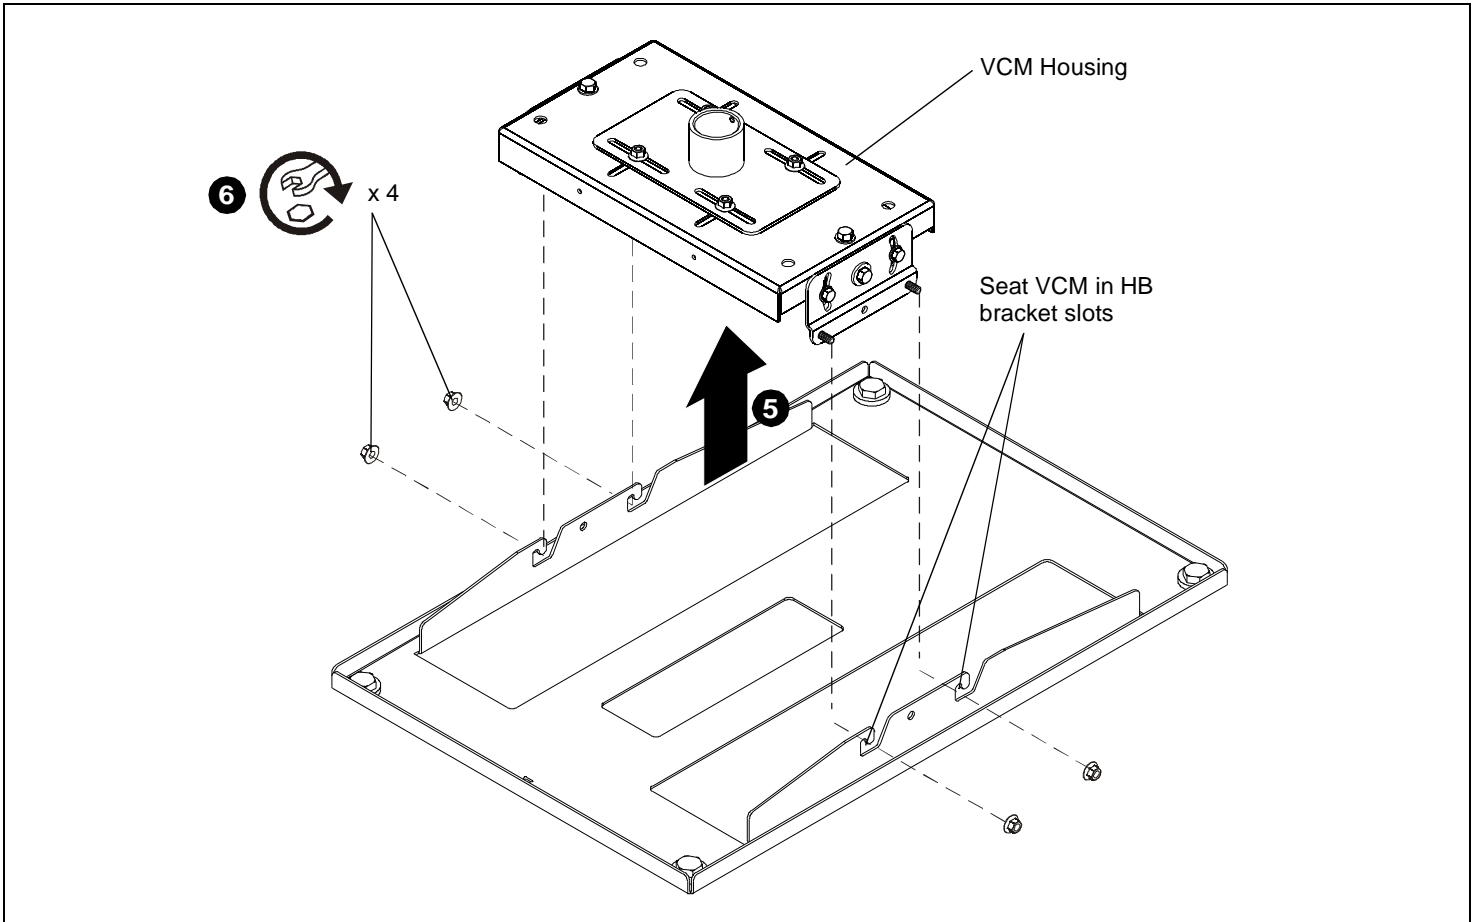

Figure 2
5. With help of assistants, lift the projector and install it to the four studs extending from the VCM housing. Ensure that the VCM housing is seated in slots on HB bracket. (See Figure 2)
6. Tighten the four 5/16" flange nuts. (See Figure 2)